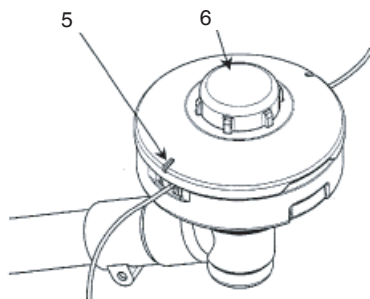

Fig. 3
If the wear limit mark (5) on the case is no longer visible or there is a hole in the bottom (6) of the button, change the new parts immediately. (Fig. 3)